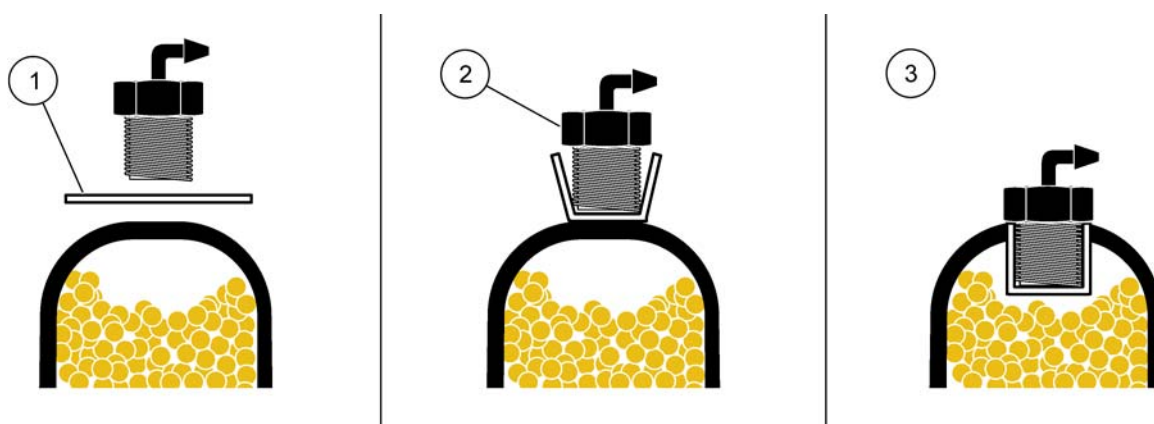

Figure 19 Replacing the Hydrophobic Filter
4. Place a new filter over the hole. Make sure that the smooth side of the filter faces the inside of the canister (Figure 19).